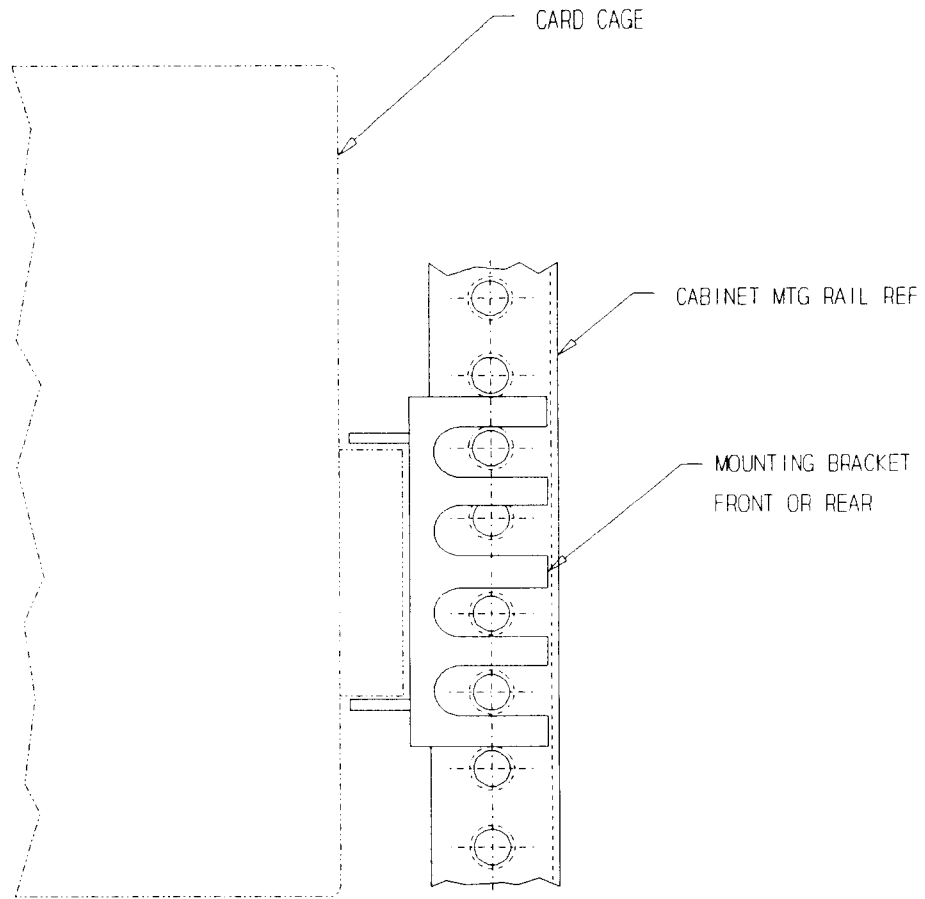

Figure 1: Cabinet Mounting
2. Referring to Figure 1, attach the front and rear mounting brackets to the cabinet slide section. The rear brackets are longer than the front brackets. Leave the hardware loose. If more than one mainframe is to be installed, determine the position of all mainframes before installing the first one.